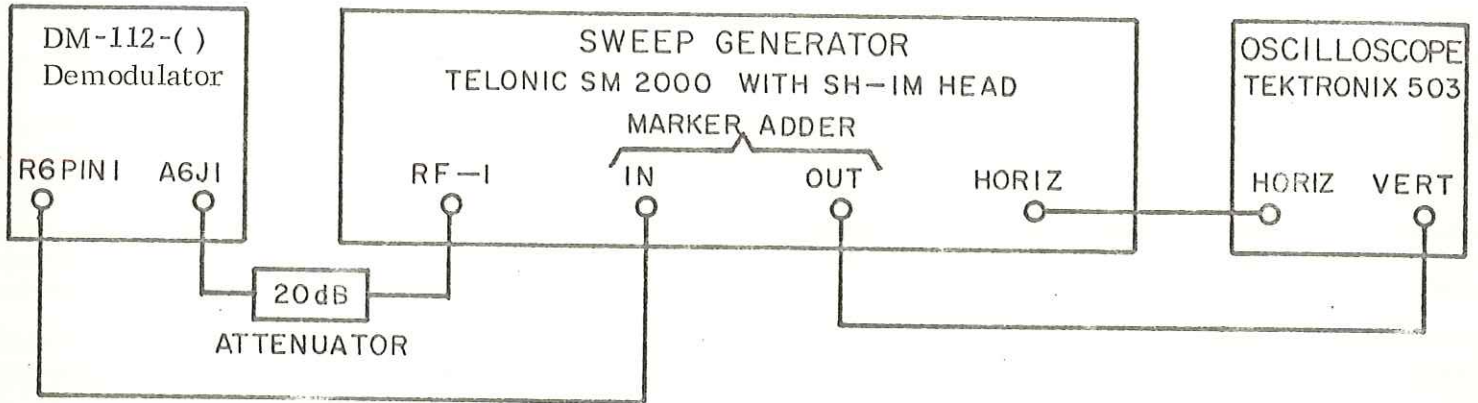
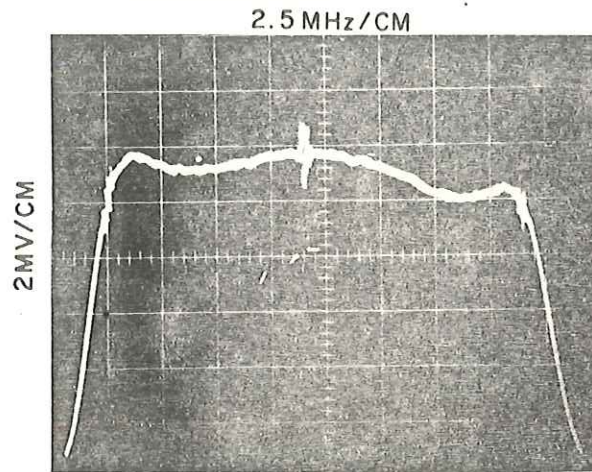

Figure 4-1. Test Setup, 160 MHz IF Amplifier Alignment (A6)
Figure 4-2. Typical Response, 160 MHz IF Amplifier (20 MHz BW)
- (1) Connect the equipment as shown in Figure 4-1. Resistor R6 pin 1 in Figure 4-1 refers to the front panel video gain control.
- (2) Place the IF Bandwidth switch in the 20 MHz position.
- (3) Set the sweep generator to 160 MHz. Turn on the internal 160 MHz marker or apply an external 160 MHz marker. A signal generator (Item 2 Table 4-1) applied to the external marker input of the sweep generator will produce a usable marker. Use the signal generators 1 MHz crystal calibrator to calibrate the marker signal in 1 MHz steps.
- (4) Adjust the oscilloscope and sweep generator controls to display a response curve similar to the oscilloscope shown in Figure 4-2.
- (5) Adjust capacitor A6C13 for maximum gain.
- (6) Adjust capacitors A6C22 and A6C28 to produce the desired bandwidth.
- (7) Adjust capacitors A6C36, A6C42, A6C39 and A6C49 for a maximum amplitude, symmetrical response about the marker and for flatness of response.
- (8) Place the IF Bandwidth switch in the 10 MHz position.
- (9) Adjust capacitor A6C23 to produce the desired bandwidth.